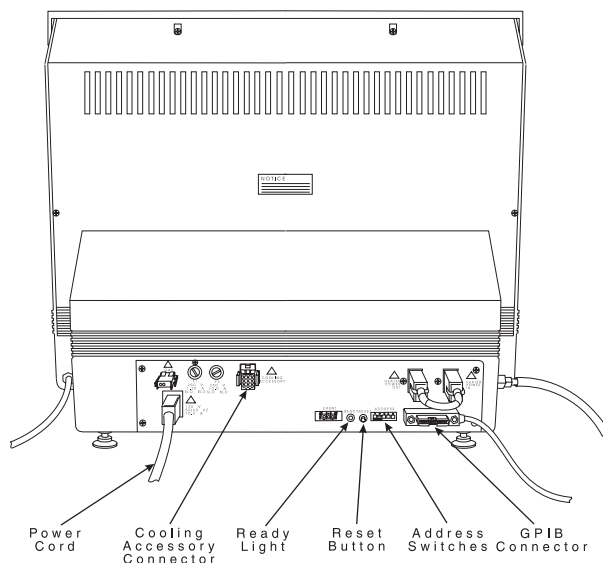

Figure 2.6
1. Locate the cooling accessory connector on the left rear of the instrument cabinet (Figure 2.6).
1. Locate the GPIB connector on the right rear of the TGA instrument (see Figure 2.6).